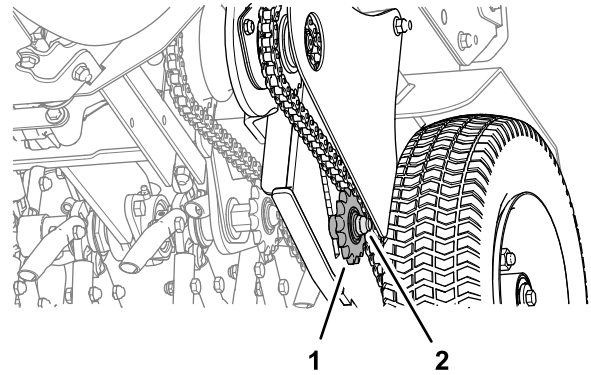

Figure 44
4. To adjust the chain tension, loosen the idler bolt and locknut, and push up on the sprocket to tighten the chain (Figure 44).